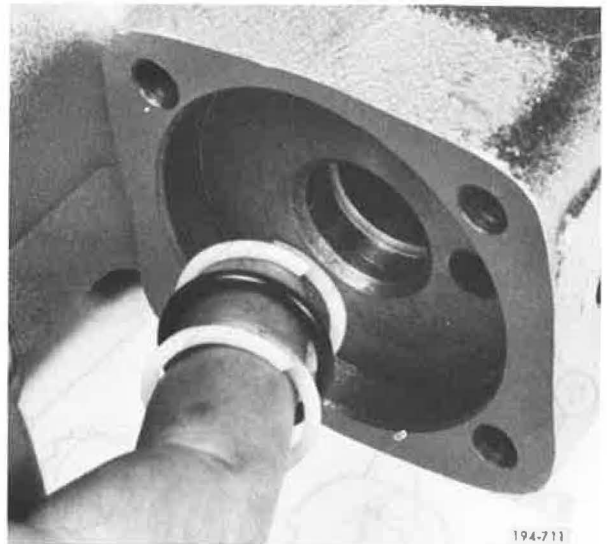

Figure 5-809. Removing O-ring and Teflon Rings
23. Remove o-ring and two Teflon rings from both the reverse opening and the Hi/Direct opening of the shift cover. See Figure 5-809.